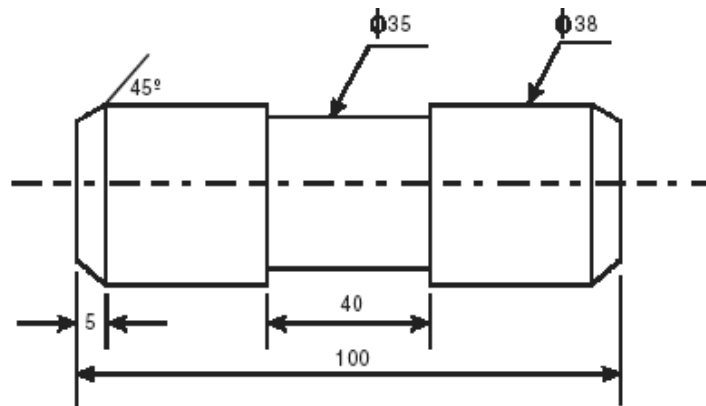

Figure 12
9. a) A mild steel bar 100mm long and 40mm in diameter is turned to 38mm diameter and was again turned to a diameter of 35mm over a length of 40mm as shown in Figure 12. The bar was chamfered at both the ends to give a chamfer of  $45^\circ \times 5\text{mm}$  after facing. Calculate the machining time. Assume cutting speed of 60m/min and feed 0.4mm/rev. The depth of cut is not to exceed 3mm in any operation.